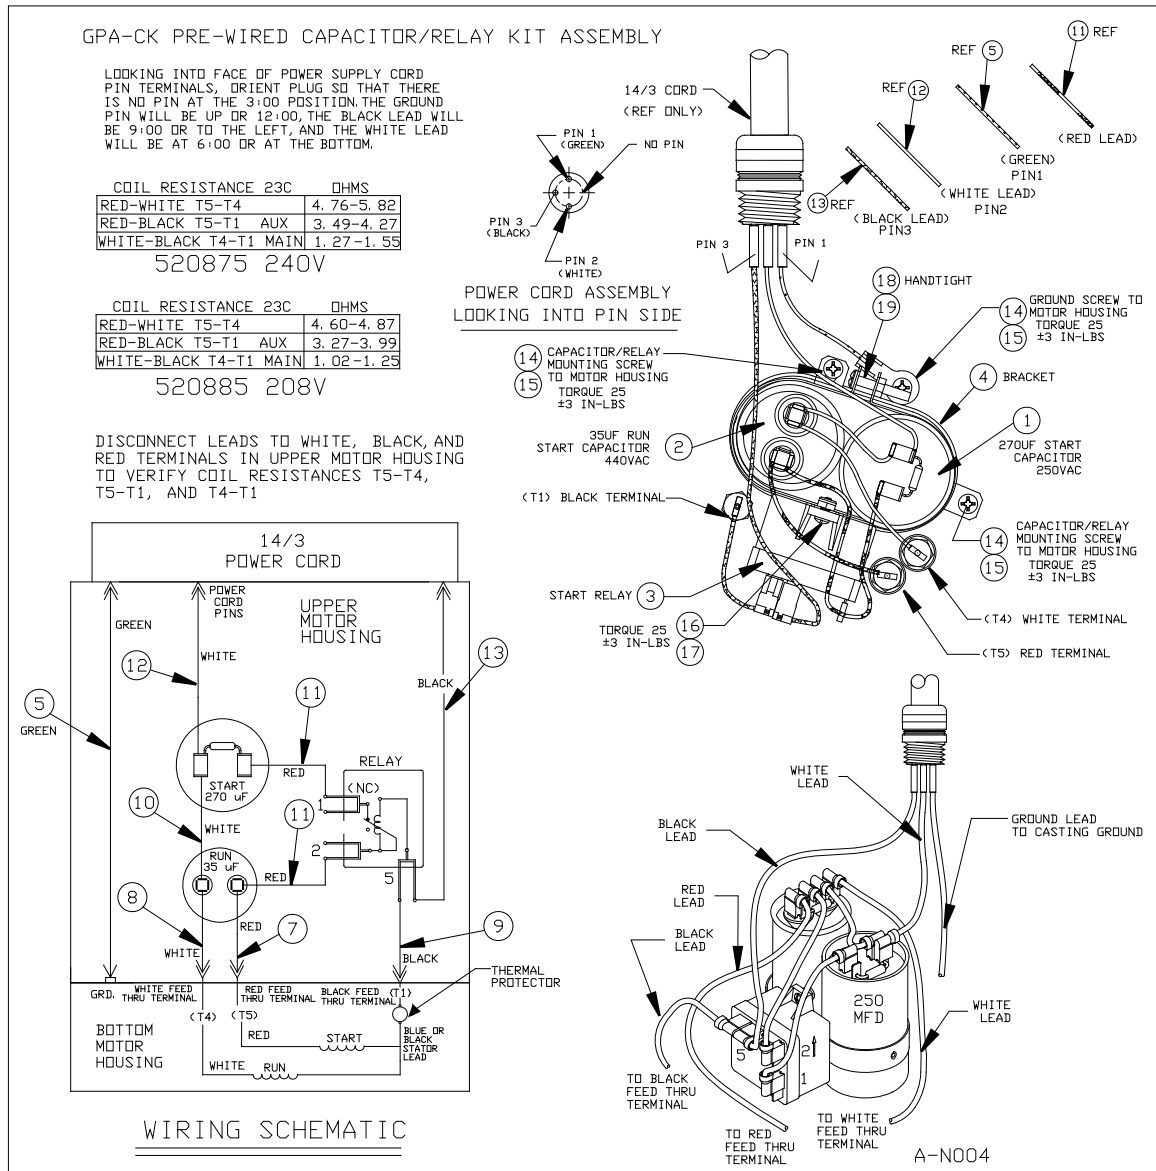

Figure 7
Refer to Figure 3, Figure 7, and the following instructions to install the capacitor/relay kit:
4. Carefully remove the white (T4), red (T5), and black (T1) wires from the white, red, and black terminals on the motor housing. Using an ohmmeter, verify that the motor coil resistance values are within the specifications shown in Figure 7. If the resistance values are too low or high (open circuit), the pump must be replaced.
9. Install the 12" green ground wire from the kit. Be certain that a #8 lock washer is on the #8 x 1/4 inch screw, then screw it securely into the motor housing. For easier installation, place the screw and lock washer inside the ground lug while installing. Attach the other end of the ground wire (female) to the ground pin on the power cord terminal using needle nose pliers, being careful to push it straight onto the male terminal. Gently pull on the wire to confirm that it is securely attached. See the "POWER CORD ASSEMBLY LOOKING INTO PIN SIDE" section of Figure 7 to confirm that the wire is attached properly. Check the connection by using an ohmmeter to confirm continuity from the green wire of the power cord to an un-painted part of the motor housing. The reading should be within a few tenths of ohms of zero for the length of the power cord.